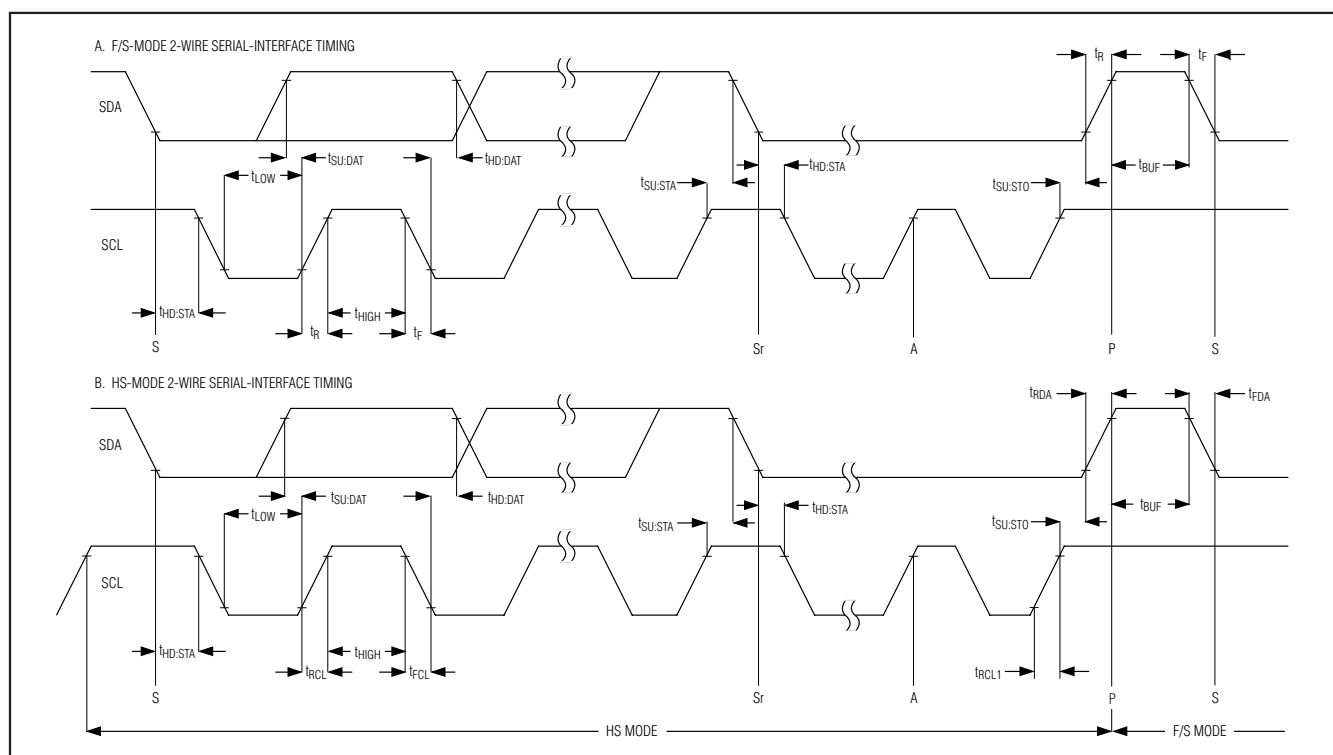

Figure 1. 2-Wire Serial-Interface Timing
### TIMING CHARACTERISTICS (Figure 1) (continued)
**Note 11:** A master device must provide a data hold time for SDA (referred to VIL of SCL) to bridge the undefined region of SCL's falling edge (see Figure 1).
up to 22.2ksps. The MAX11606–MAX11611 must operate in high-speed mode (HS mode) to achieve conversion rates up to 94.4ksps. Figure 1 shows the bus timing for the MAX11606–MAX11611's 2-wire interface.